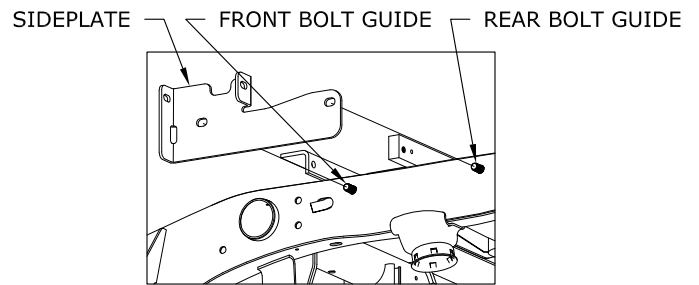
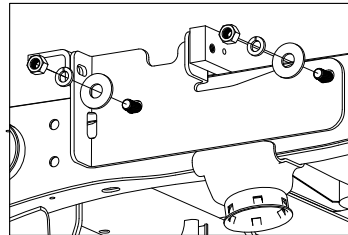
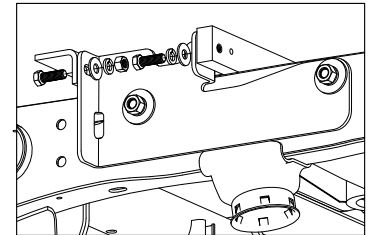

FIGURE C9: View from outside of Driver Side Frame
FIGURE C10: View from outside of Driver Side Frame
FIGURE C11: View from outside of Driver Side Frame
- 3. Install the side plates.** Place each side plate over the $\frac{5}{8}$ " bolts held in place by the bolt guides, see figure C9. Attach the side plates to the frame with a flat washer, lock washer, and nut, see figure C10. Attach the side plates to the front and rear cross members with $\frac{1}{2}$ " hardware as shown in figure C11. Do not tighten the $\frac{5}{8}$ " or $\frac{1}{2}$ " hardware at this time.